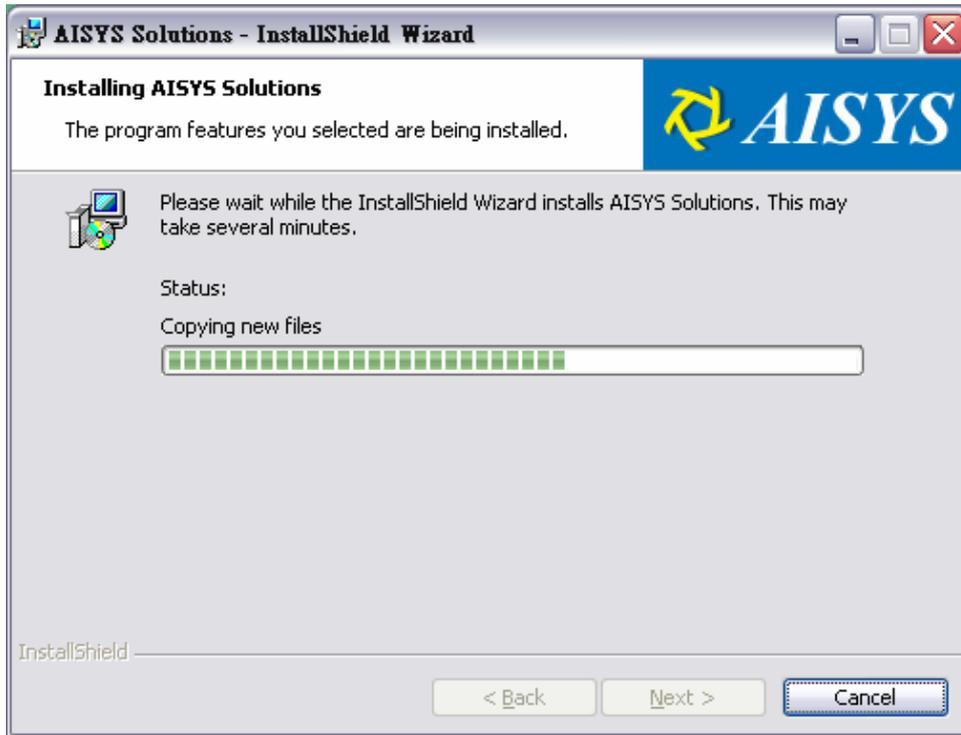

Figure 6.
6. Wait for the installation process finished as shown in Figure 6.